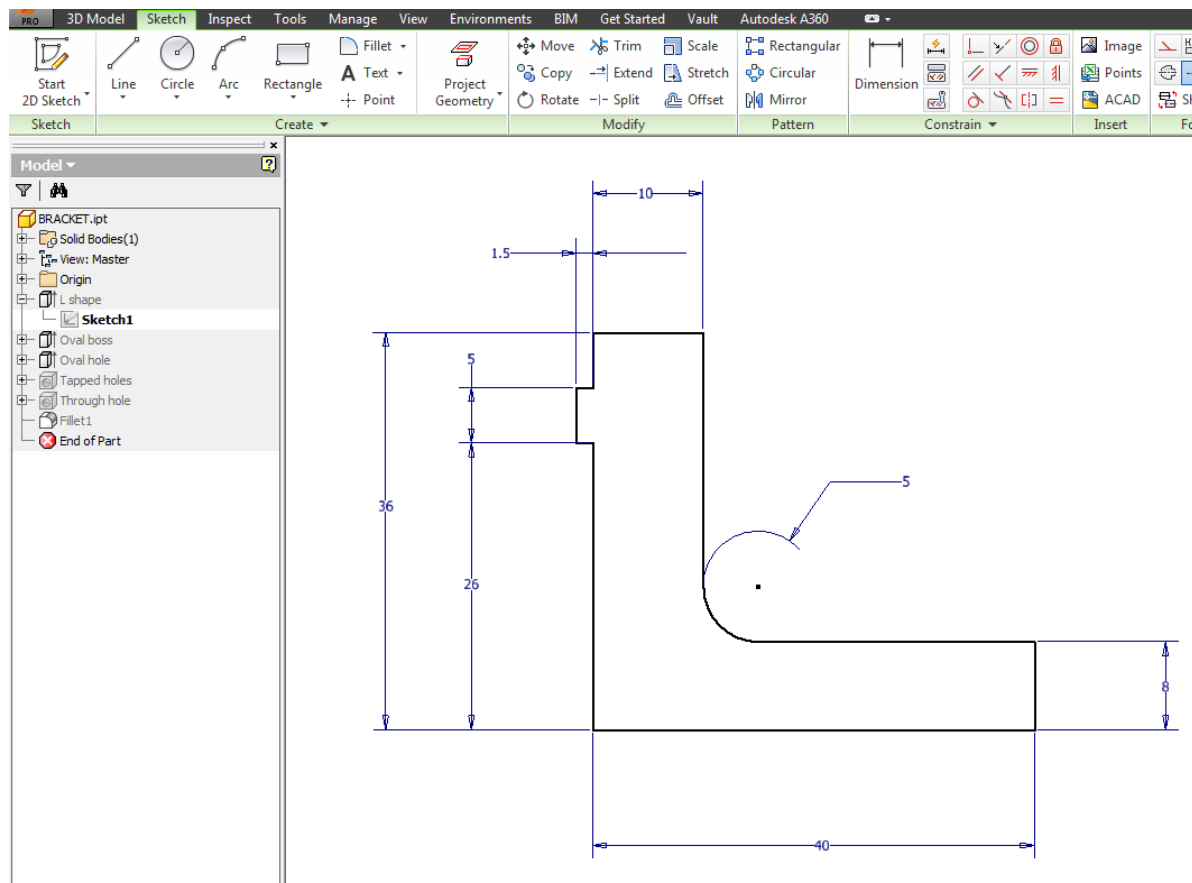

Fig. 1a
- Create a sketch (Fig 1a) noting automatic constraints, apply additional constraints and dimensions, e.g. ensure that the vertical lines either side of the 5x1.5 projection are co-linear. Display and remove restrictive constraints. Modify and hide/restore dimensions. **Do not delete dimensions** (unless they are duplicates and/or redundant).